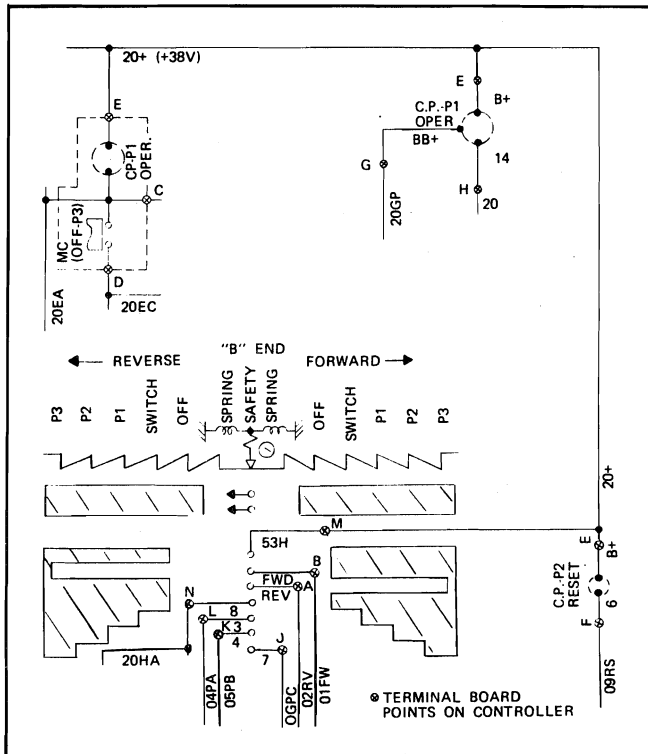

FIG. 8-5. WIRING DIAGRAM EXTERNAL CONNECTIONS. E-19935
4. Connect the external wires to the terminal board points per the wiring diagram, Fig. 8-5.